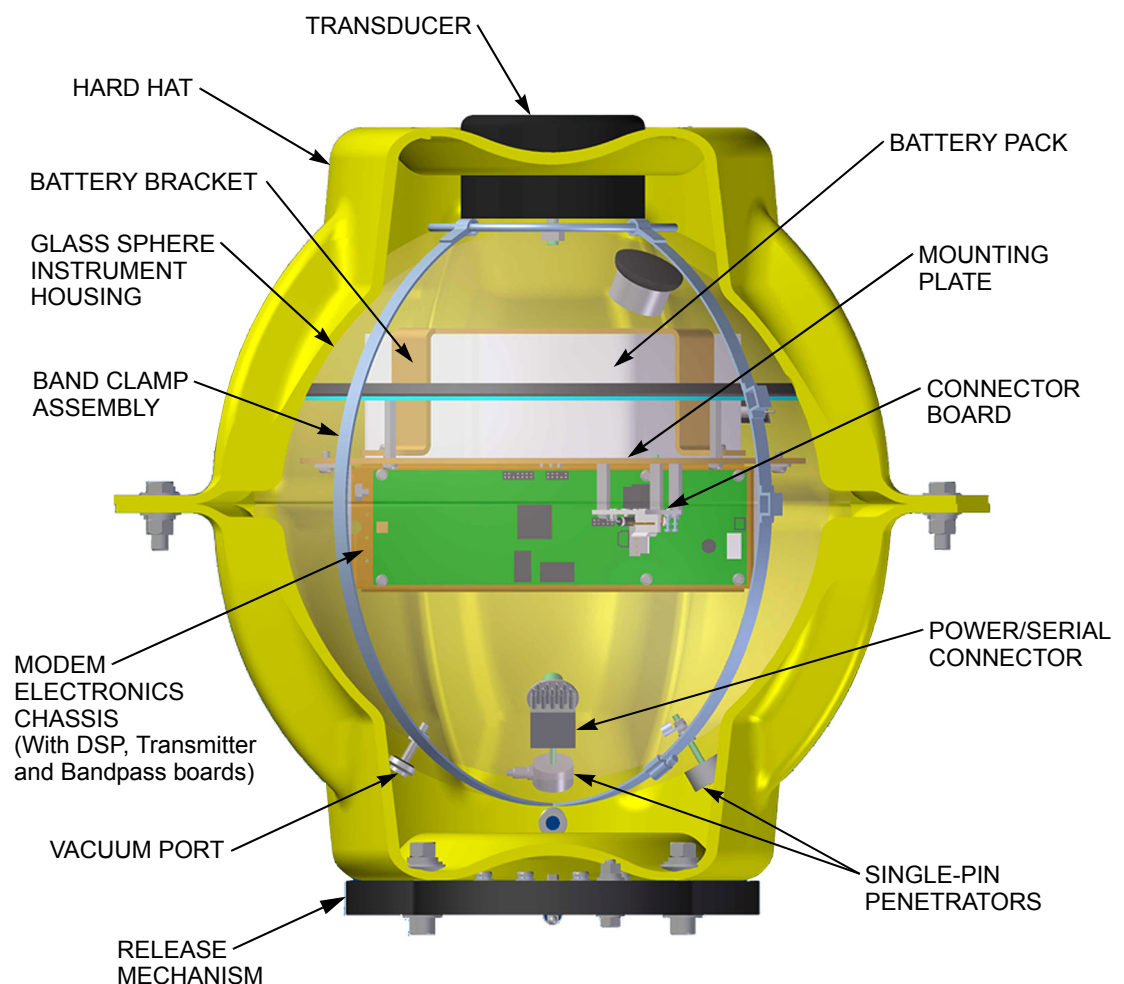
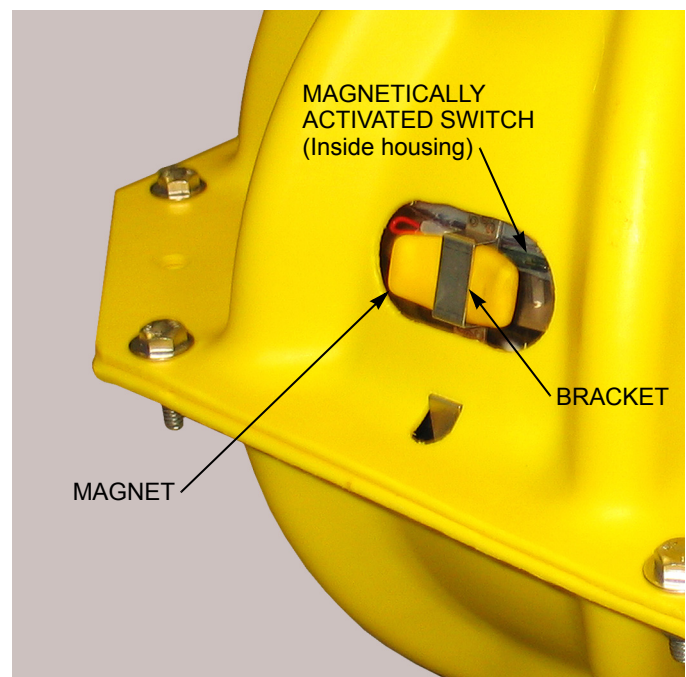

Figure 1-4 SM-75 Construction
Figure 1-6 Magnetically Activated Switch and Magnet
The SM-75 consists of a glass sphere instrument housing with a hard hat and attached release mechanism as shown in Figure 1-4. The housing is composed of two precision matched glass hemispheres with finely ground flat edges that are bound together with a band clamp assembly. The two halves are sealed with butyl rubber, and the sealant is covered with black vinyl tape. Inside the housing is a mounting plate to which are mounted a battery pack and the modem electronics chassis. Mounted directly to the outside surface of the housing are the transducer, the power/serial connector, two single-pin electrical penetrators, and a vacuum port. In addition, a removable magnet is attached to a bracket on the band clamp assembly and is accessible through the hard hat as shown in Figure 1-6 on page 1-7. The magnet is used to turn on the SM-75 when removed.
A magnetically activated switch is attached to the inside surface of the glass housing as shown in Figure 1-6. A removable magnet is attached to a bracket on the band clamp assembly over the switch to maintain the switch in the open state. Removing the magnet closes the switch and turns the SM-75 on. An audible tone is also heard when the magnet is removed.
6. Remove the magnet from the bracket on the band clamp assembly. An audible tone will be heard. The magnet and its bracket are shown in Figure 1-6 on page 1-7.